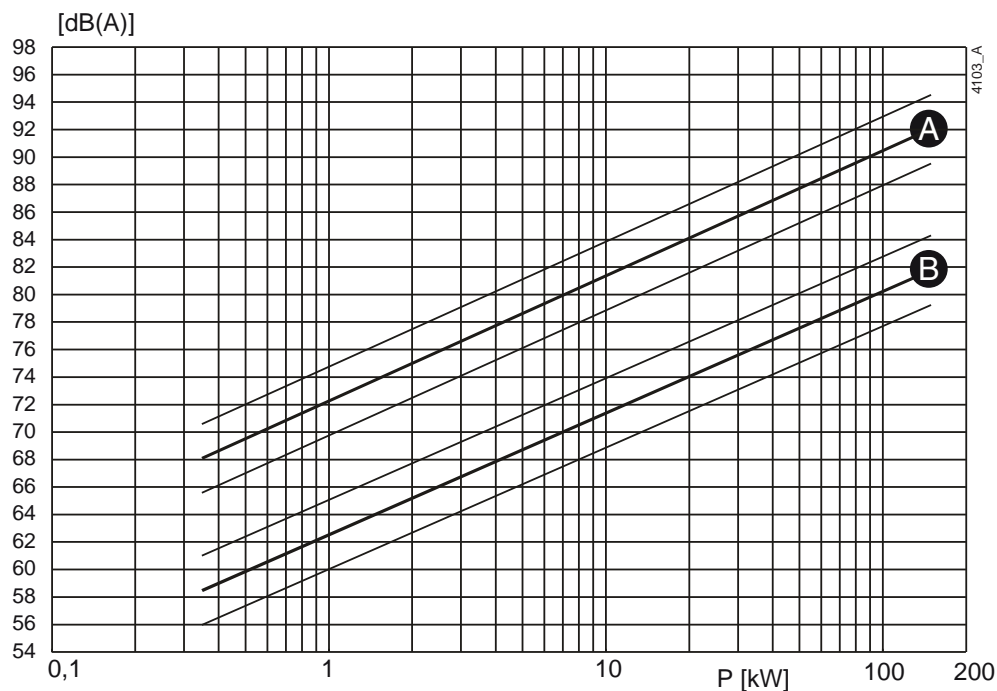
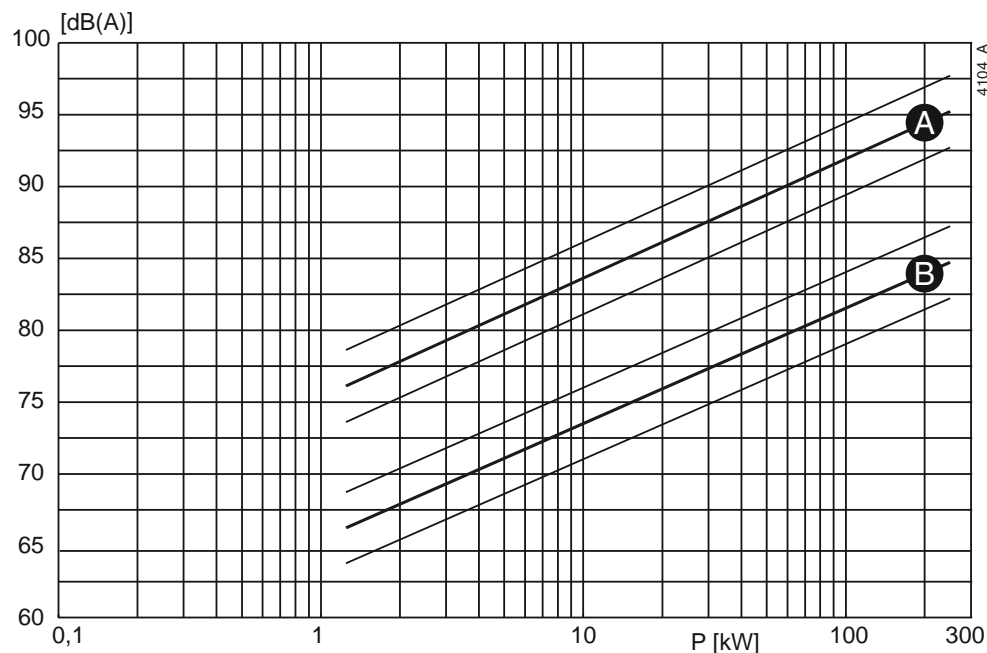

Figure 27: Noise level as function of pump power [kW] at 1450 min-1
Figure 28: Noise level as function of pump power [kW] at 2900 min-1
- 1 Determine the noise level (L1) of the pump, see figure 27 or figure 28.